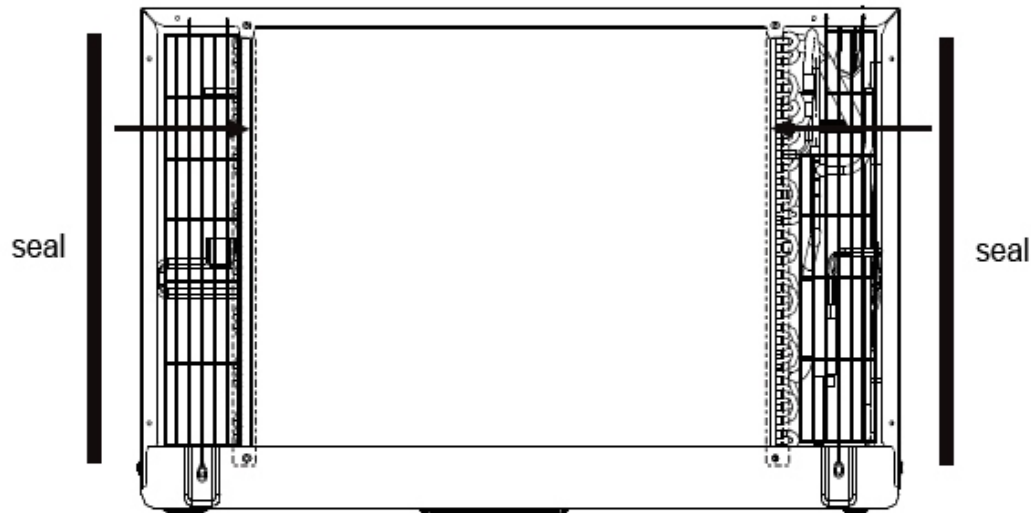

Fig. 1
1. Attach the (2) seal pieces (1" x 3/8" x 14") as shown in Fig. 1.